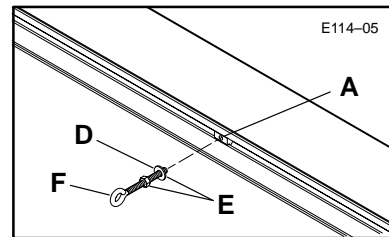

Figure 5: Eye Bolt Attachment Detail
- d. Secure the Anchor Eye-Bolt to the Single Drop-in T-bar by tightening Jam Nut (E) against Conveyor side channel, after the desired position is obtained (Figure 5).